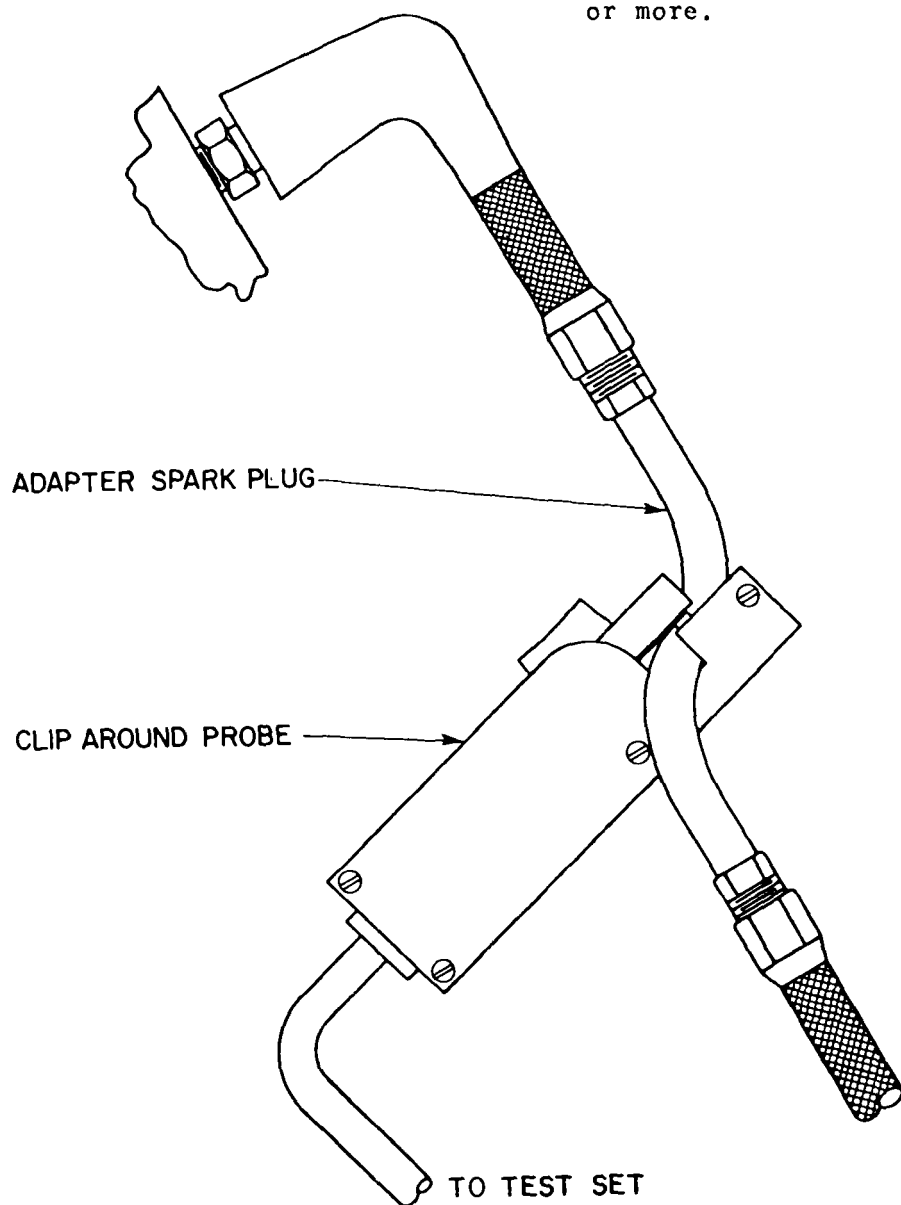

FIG 2-2. TACHOMETER CONNECTION
- f. Attach the tachometer lead to any convenient secondary wire (see fig. 2-2). Do not connect to the center (spark coil) wire. If a shielded system is used on the vehicle, attach an adapter sparkplug lead.